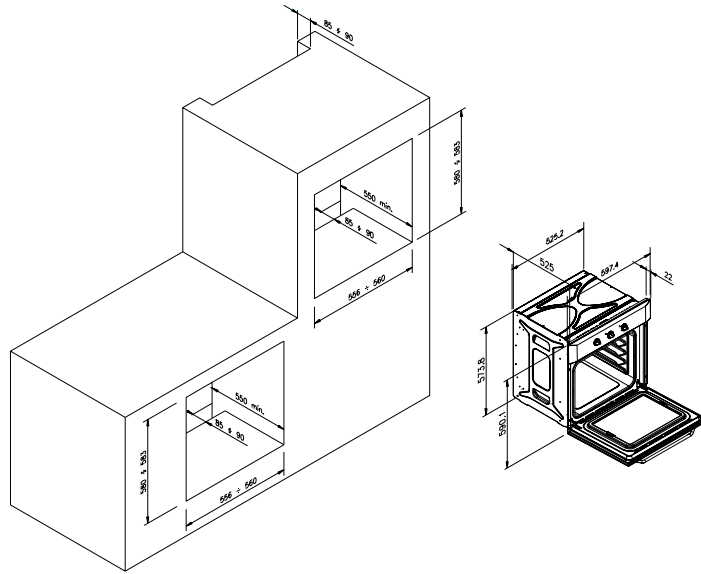

Fig.2 Installation distances for 60cm wide single electric ovens (shape of top casing may vary)
POSITIONING THE APPLIANCE (see also Fig. 2 page 22)
1. Ensure that the aperture for oven installation is the correct size as per Fig. 2 at page 22.